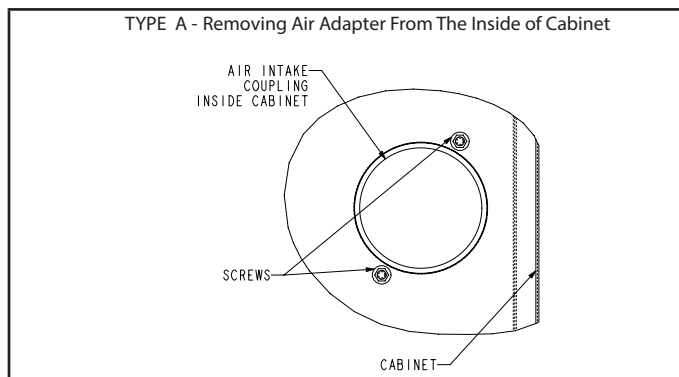

FIGURE 22
- 4 - **Type A units** - Remove the air intake adapter by removing the two screws that secure it to the cabinet. Remove the four screws on the aluminum elbow, make note of the pressure switch bracket location. It may be necessary to disconnect the gas pipe to the gas valve before removing the screws. See FIGURE 22.